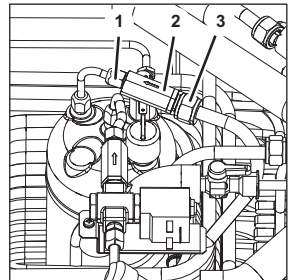

Figure 100
1. Release the couplings (Figure 100/1 and 3) on the non-return valve (Figure 100/2).
2. Lift the non-return valve (Figure 100/2) out of the unit.
5. Attach the non-return valve (Figure 100/2) using the couplings (Figure 100/1 and 3).